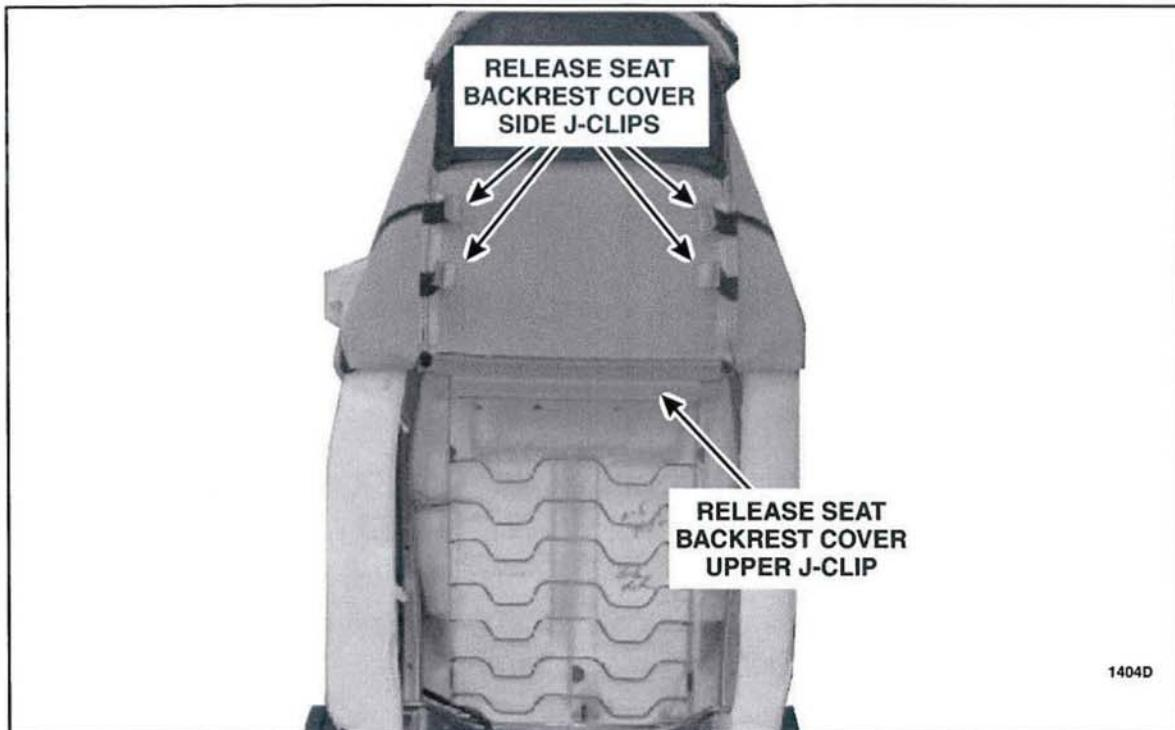

FIGURE 5
7. Position the seat backrest cover up far enough to access the upper J-clip as well as the side clips. See Figure 5.